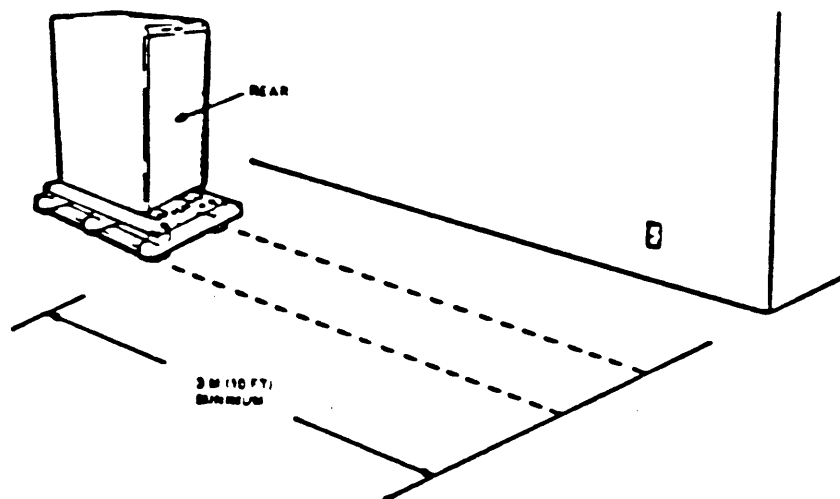

FIGURE 2-15 Clearance Required for Unpacking.
Step 2: Allow enough clearance in the unpacking area for removing the cabinet from the skid. A minimum of 10 feet (3 meters) is necessary (see Figure 2-15).